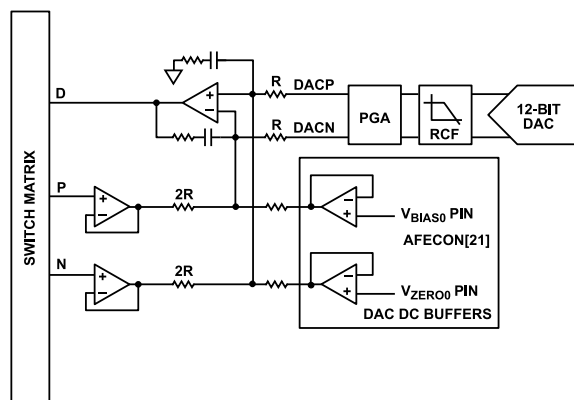

Figure 24. High Speed DAC Excitation Amplifier
Figure 24 illustrates the operation of the excitation amplifier and its connection to the switch matrix. There are four inputs to the excitation amplifier: DACP, DACN, positive (P), and negative (N). The high speed DAC is a differential output DAC where the positive and negative inputs feed directly to the excitation amplifier.
2. The DAC dc buffers must be enabled (AFECON, Bit 21 = 1). Figure 24 shows the connection of the dc buffers to the excitation amplifier. These buffers enable the low power DAC outputs to drive the required bias voltage to the excitation amplifier and the high speed TIA.